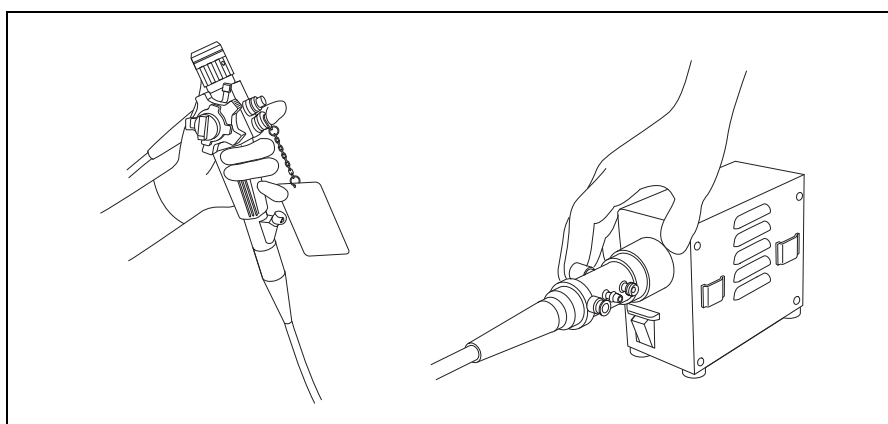

Figure 4.2
2. Close the irrigation port of the endoscope with your finger. Press the AW Channel Cleaning Adapter button and release it. Repeat this procedure at intervals of approximately 30 seconds until no more water or 70% ethyl or isopropyl alcohol exit the Distal End of the endoscope (see Figure 4.2).